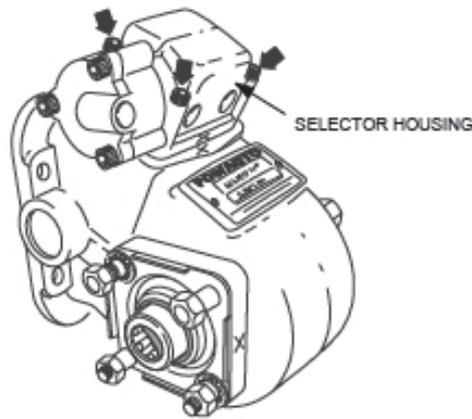

Figure 1 Socket-Head Bolt Location
- c. Remove the four socket-head bolts securing the selector housing to the PTO and remove the selector housing (Figure 1).